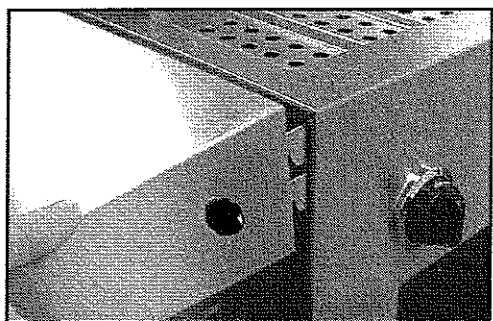

Fig. 10
1. Attach the shelf with the ignitor to the left side of grill and the other shelf to the right by inserting the shelf hooks into the slots on the side of the grill and pushing down on the shelf assembly until level with grill. (See Fig. 10)